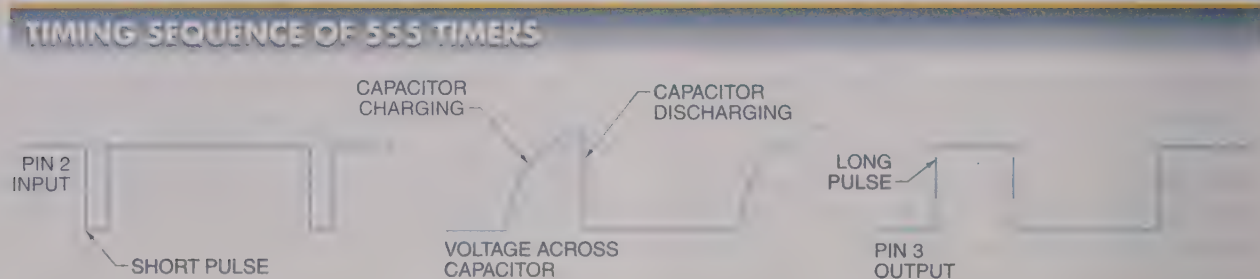

Figure 16-35. The overall timing sequence of a 555 timer is shown by comparing input and output waveforms to the charging of the RC network.
The overall timing sequence can be seen by comparing input and output waveforms to the charging rate of the resistor–capacitor (RC) network. **See Figure 16-35.** A short input pulse at pin 2 produces a relatively long output pulse at pin 3.